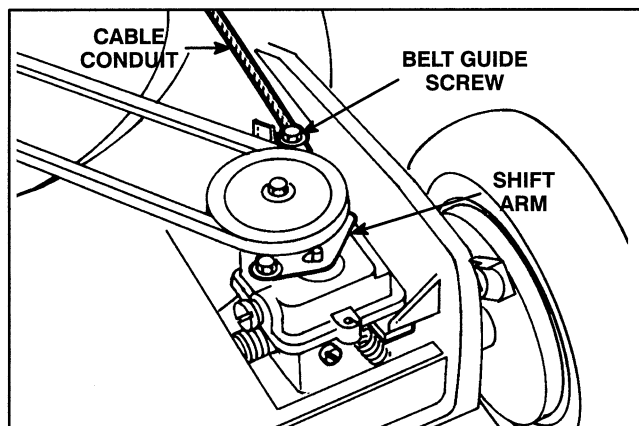

Figure 20
3. **ADJUSTMENT** (Fig. 20)—Loosen belt guide screw until cable conduit slides. Move handle—mounted wheel drive control to **DISENGAGE** position. Move shift arm toward clamp screw and hold in place. Pull cable conduit to remove slack and tighten belt guide screw.